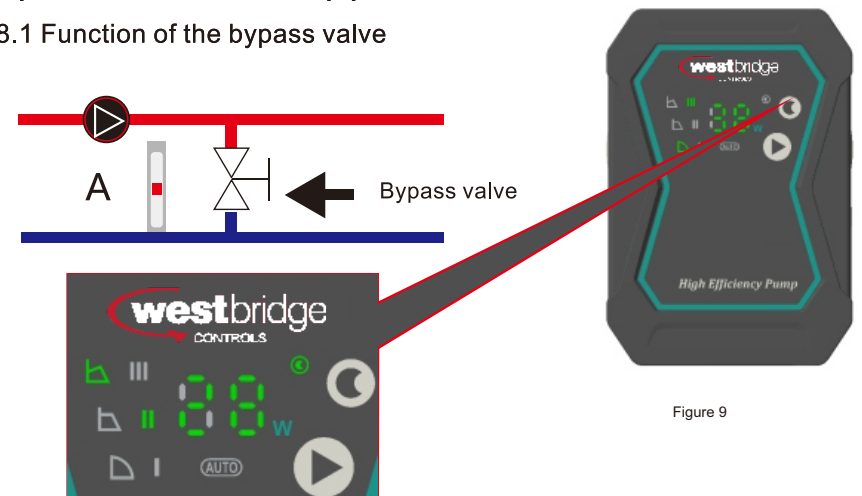

Figure 9
8.3.1 When adjusting the bypass valve, ensure that the pump is in setting I speed I mode. (Figure 9)